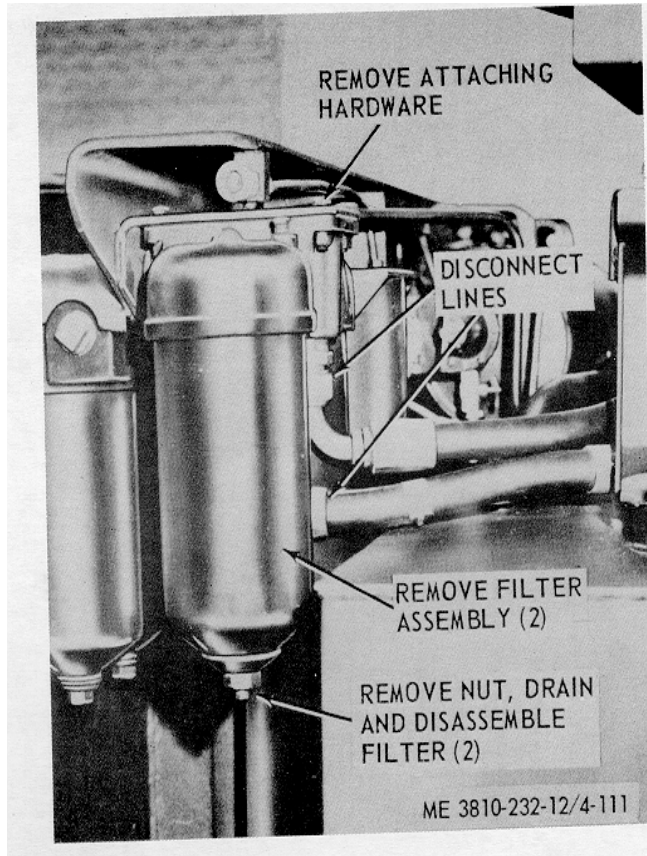

Figure 4-111. Hydraulic oil filter, removal and installation (model 2380).
(1) Remove hydraulic oil filter as illustrated in figure 4-111.
(2) Disassemble in accordance with paragraph 4-21.
c. *Installation.* Install hydraulic filter as illustrated in figure 4-111. Check hydraulic level as described in lubrication order.